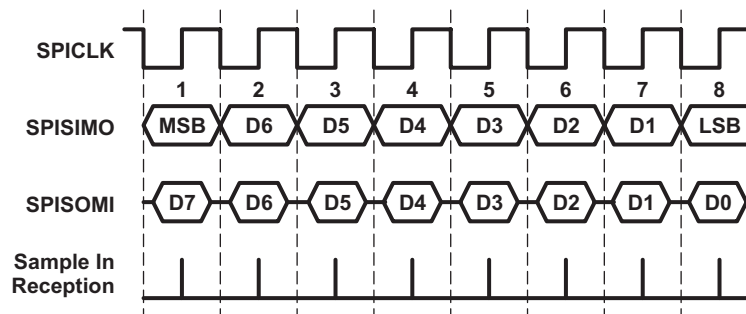

Figure 27. SPI Mode for Communication
- In the SPI-boot modes, the received data is sampled at the rising edge of the clock and the data to be transmitted on the falling edge of the clock as shown in Figure 27: